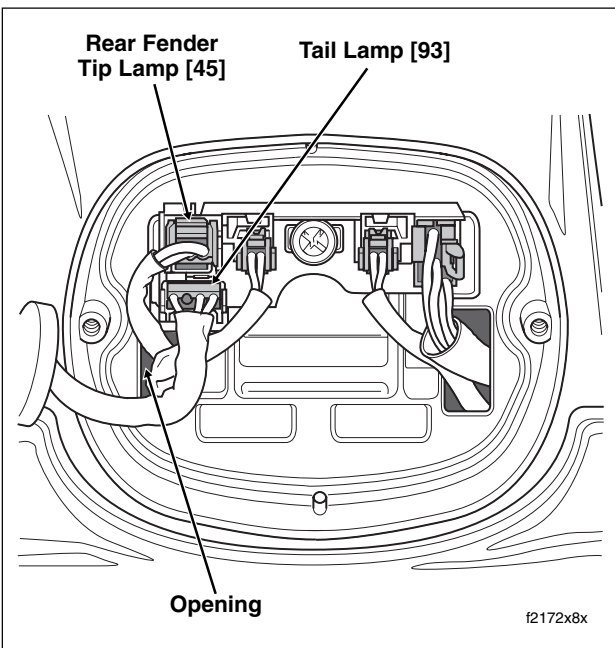

Figure 8-48. Depress Button to Release Socket From Pin Housing
2. Depress button at bottom of 4-place Multilock socket to release tail lamp assembly from pin housing. See Figure 8-48.
10. To install tail lamp assembly, orient 4-place Multilock socket so that the release button is at the bottom and insert into pin housing until it "clicks." To avoid stressing wires, verify that tail lamp conduit is positioned on the outboard side of the rear fender tip lamp and left turn signal lamp conduit as shown in Figure 8-48.